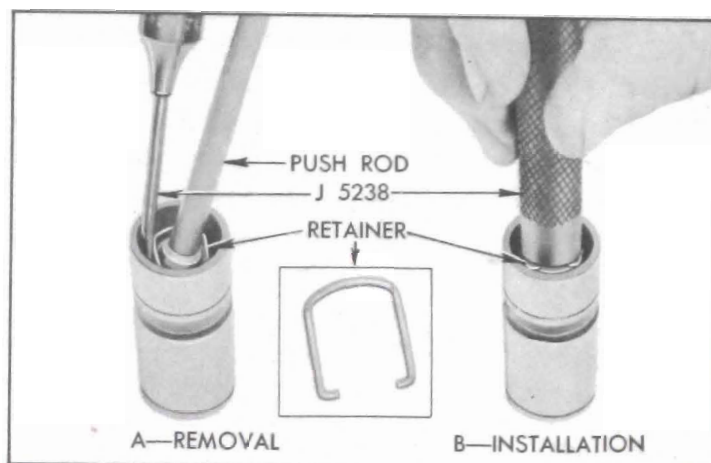

Figure 2-21—Removing and Installing Plunger Retainer
1. Disassemble each valve lifter by using a push rod to hold down the push rod seat while removing the plunger retainer from the lifter body, using Retainer Remover J 5238. See figure 2-21, View A. Remove push rod seat and plunger from lifter body.
engages groove in body. See figure 2-21, view B.